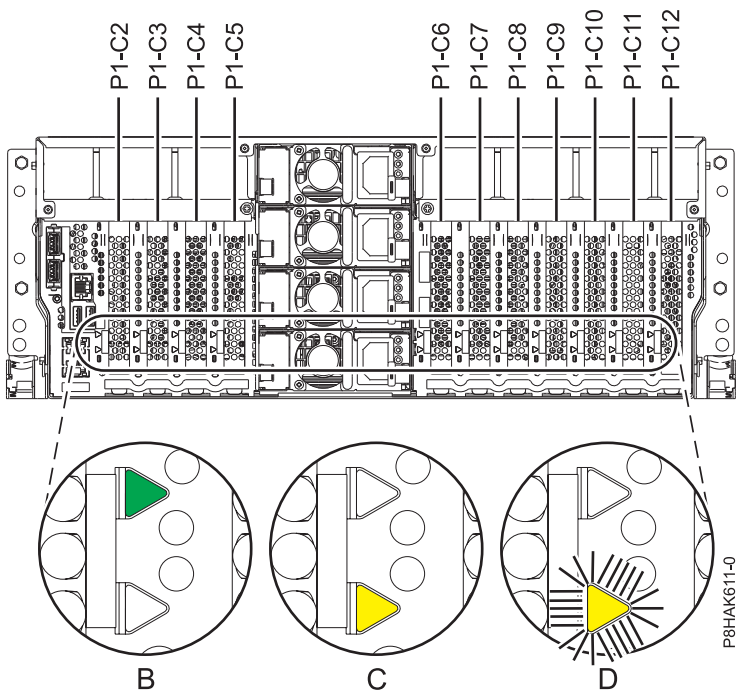
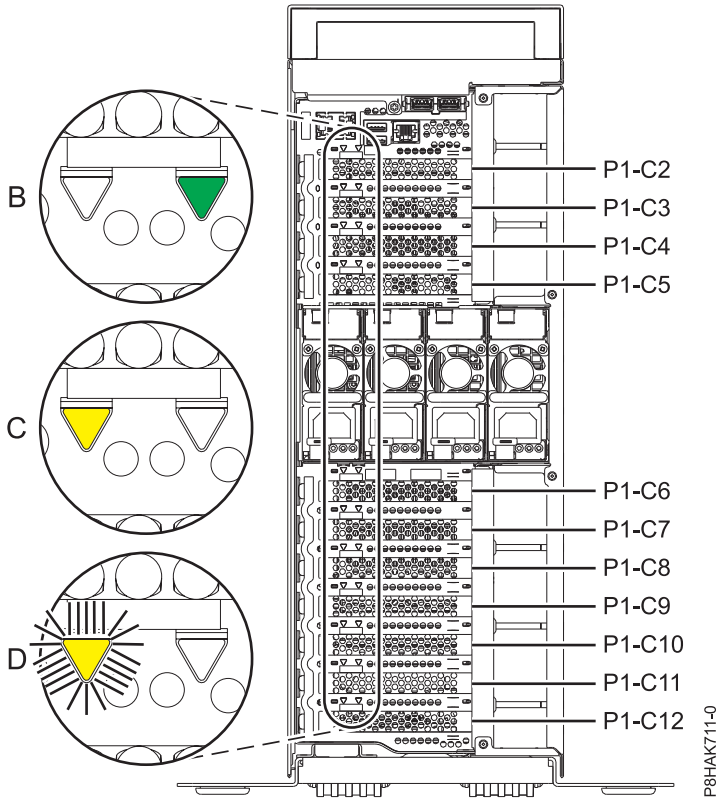

Figure 46. PCIe adapter slot locations and locations of the LEDs in a rack-mounted system
Figure 47. PCIe adapter slot locations and locations of the LEDs in a stand-alone 8286-41A system
1. Familiarize yourself with the locations of PCIe adapter slots and the service indicators for the PCIe adapter that you want to service. The PCIe adapters are installed in the rear of the system. Figure 46 on page 50 and Figure 47 on page 50 show the locations of the PCIe adapters in a system and the locations of the light-emitting diodes (LEDs) for the PCIe adapter.